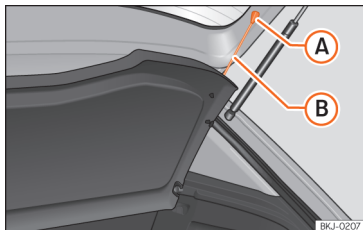

Fig. 136 In the boot: removing and installing the shelf.
- Detach the cord loops >>> **Fig. 136** (A) from their hooks (A).
- Attach the securing straps >>> **Fig. 136** (B) onto the rear lid.